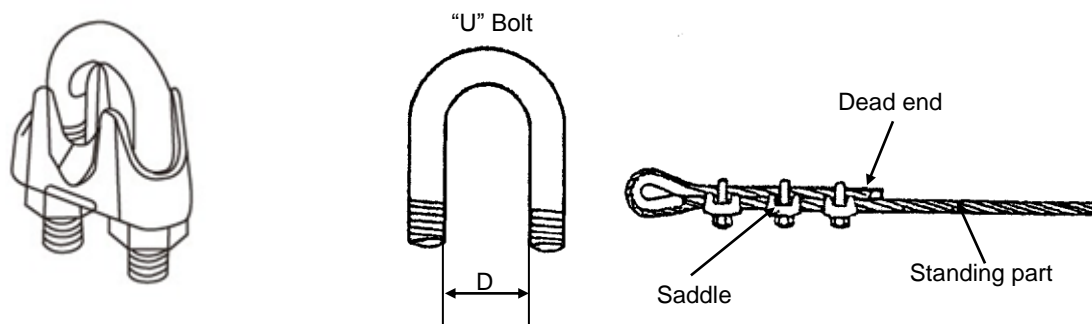

FIG 42.
- A. Wire rope clamps (Fig 42), when applied properly, are a simple and effective means of making a temporary sling. They are also useful for joining two ropes to form a single temporary rope.